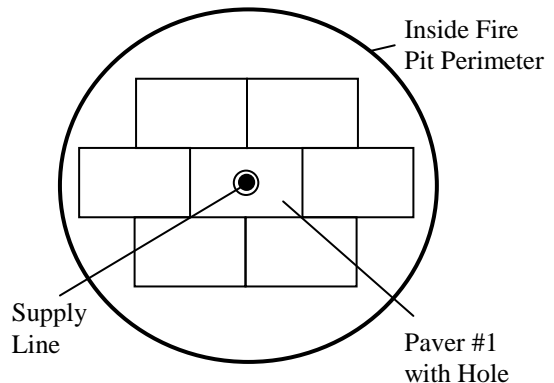

Fig. 1
- a. Drill hole in brick paver slightly larger than the supply line and install paver over supply line. See Fig.1.